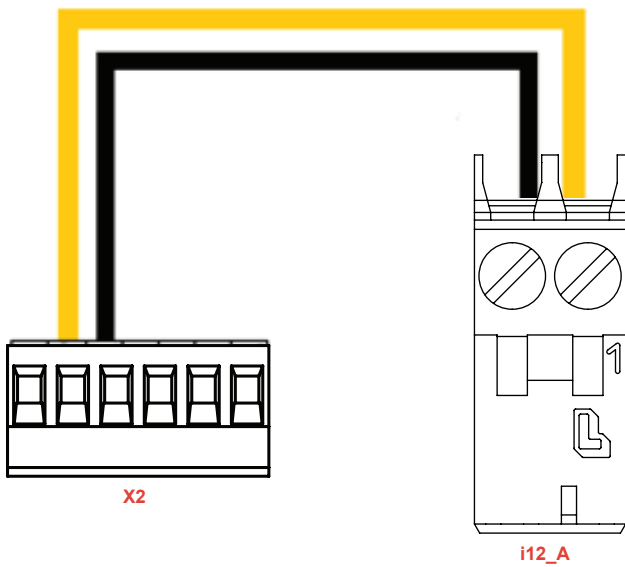

Fig. 2
2. PWM to 10V Pump Harness - Shown in Fig. 2.